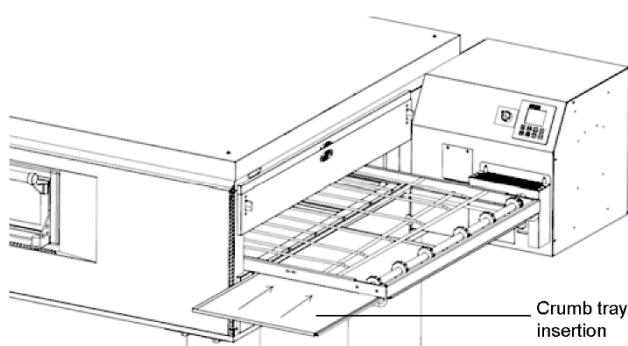

Figure 24. Crumb Trays
1. Install the crumb trays underneath the conveyor as shown in Figure 24.